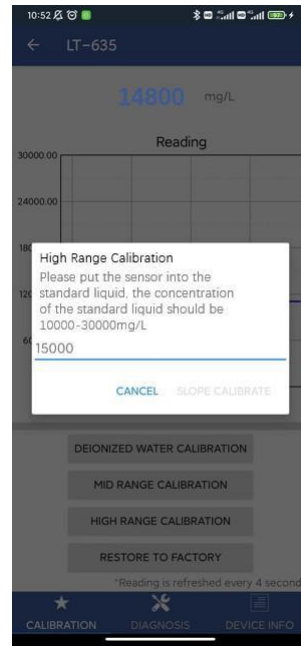

Figure 12
**High-Range Calibration Process** - If the high range calibration is not required (>10,000mg/L), the user does not need to calibrate the high range. To continue with the high range calibration after completing Mid-Range calibration, remove and insert the LT-635 sensor into a clean and dry beaker and inject the High Point calibration solution. **\*NOTE\*** The high point calibration solution can be process water of the application itself, with a verified Total Suspended Solids (TSS) value in the range of 10,000 to 30,000 mg/L. The recommended method of TSS verification for the calibration solution being used is Gravimetric Total Suspended Solids determination. Wait until the reading stabilizes and then click the High Point Calibration button to calibrate the highpoint, as in Figure 12. If the calibration is successful, the interface will return a message "Calibration Succeeded". If the calibration has failed, the interface will return a message "Calibration Failed" and the user must repeat the process until calibration success is achieved.